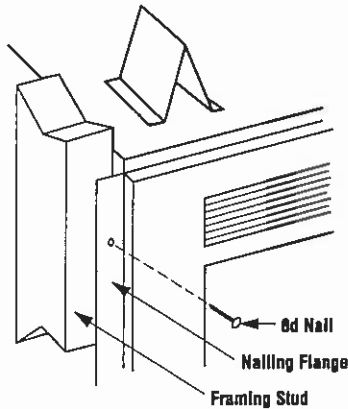

Figure 18
**Step 5.** The fireplace should be secured to side framing members through the nailing flange (Figure 18).